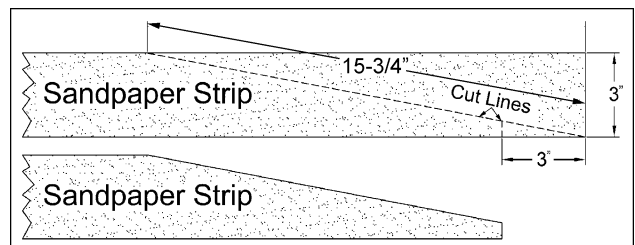

Fig. 7
1. Mark and cut a taper at one end of the roll, see Figure 7.
2. Square off the end of taper, see Figure 7.
7. Remove the abrasive strip and cut a taper as was done with the starting edge, see Figure 7. **Note:** The taper on the remaining roll can be used as the taper for the starting edge of the next strip to be cut.